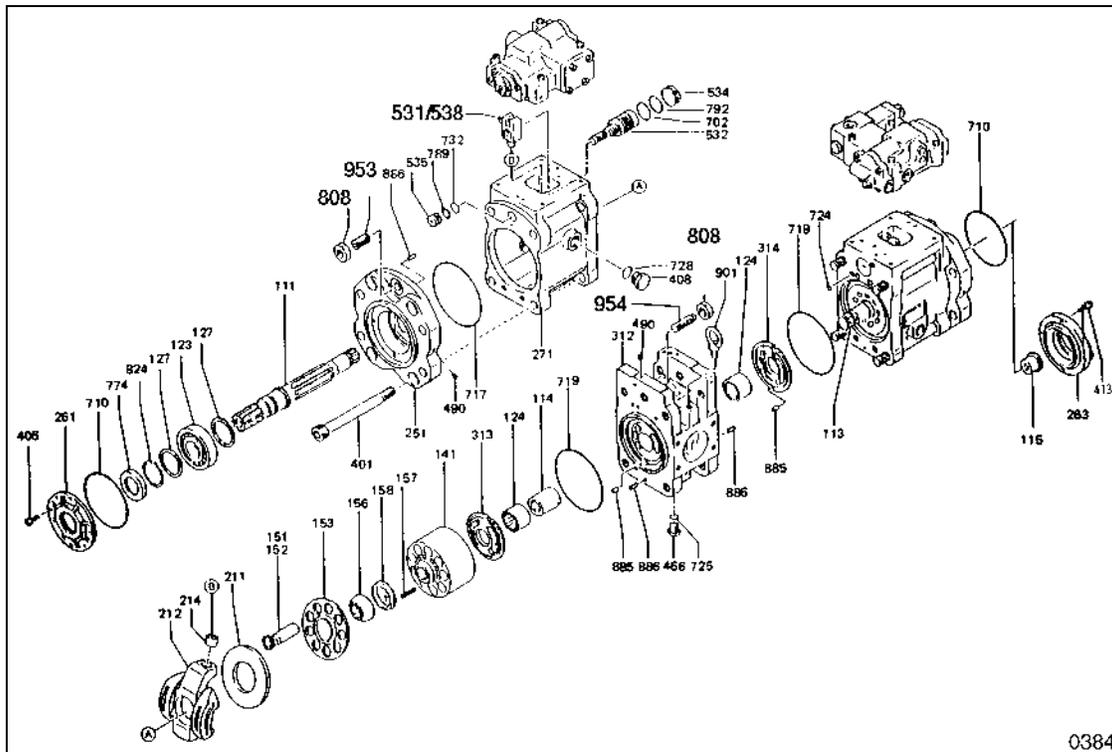
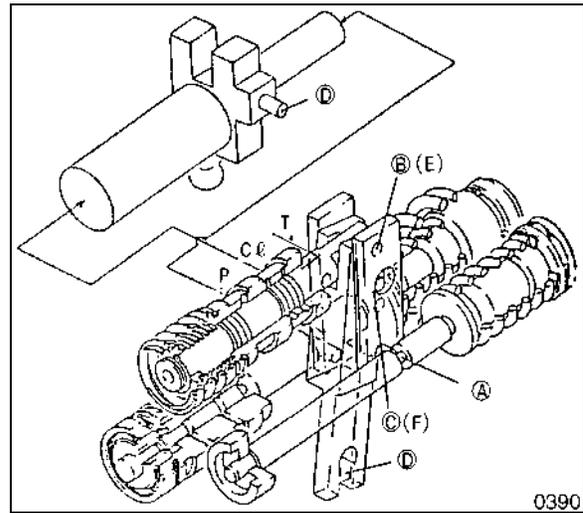
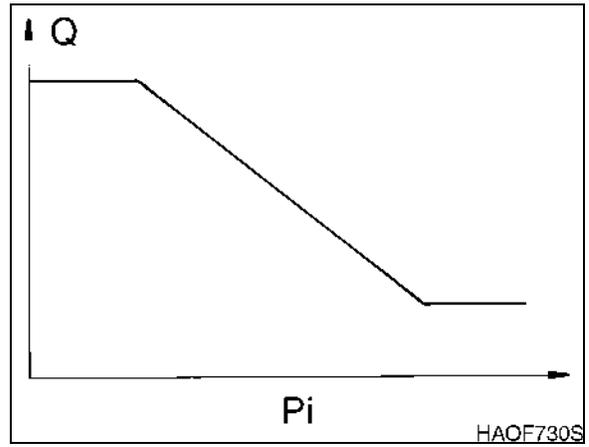
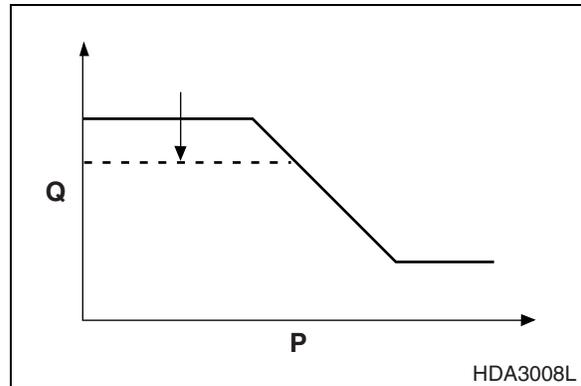

Figure 1
Figure 6
Figure 7
Figure 10
A regulator control valve is integrally-mounted to the housing of each of the two variable displacement hydraulic pumps (Figure 1). The regulator valves perform the task of controlling the rate of pump discharge for the main pump assembly. Pump output may need to be varied as a result of increased or decreased work load demand, operator-input changes to control lever position and/or to maintain balanced output between pumps, increasing or decreasing the discharge rate at one pump to compensate for the output of the other pump.
The relationship between Pump Displacement Flow (Q on the vertical axis) and Pilot Pressure (Pi on the horizontal axis). Pump output discharge is controlled by increasing or decreasing pilot pump pressure (Figure 7).
When pilot pressure ( $P_i$ ) increases, the pilot piston (643) shifts toward the right, stopping at that point at which pilot pressure and the force of the return spring (646) cancel each other out. Movement of the pilot piston pushes the pin (875) attached to the feedback lever assembly (613, 611, 897) around the "B-point plug" (614) and the pin (875) on the opposite side of the feedback lever assembly. The pin at the lower end of the feedback lever is attached to the tilting pin of the swash plate (531/538 in Figure 1).
**NOTE:** *In Figure 6, the circled capital letter "D" at the lower end of the feedback lever shows the approximate location where the assemblies shown in Figure 1, Figure 6 and Figure 8 react as the pin (897) at the top of the feedback lever moves and the piston shifts, maintaining dynamic balance through the valve between pilot pressure ( $P_i$ ) and discharge output flow ( $Q$ ) as shown in Figure 7.*
When pilot pressure ( $P_i$ ) decreases, the pilot piston shifts toward the left and the feedback lever assembly pivots around point "D" (Figure 6), pushing the spool and servo piston left. Swash plate tilt angle is heightened and pump output flow begins to increase as a result. Control movement of the spool and servo piston stops when the feedback lever assembly rotates around point "C" (Figure 6), moving the spool to the right until it slides into the sleeve (651) and oil movement is blocked.
Maximum and minimum discharge flow, horsepower control characteristics and discharge control characteristics can all be modified by changing the position of adjustment screws built into the pump housing (Figure 1) and the end plate of the regulator valve (Figure 8).
Maximum and minimum discharge flow can be modified by loosening lock nuts (808, Figure 1). To decrease maximum discharge flow (by approximately 5.6 lpm [0.025 gpm]), tighten adjusting screw (954) by 1/4 turn. Figure 10 shows the effect of this adjustment on the output characteristics of the pump.